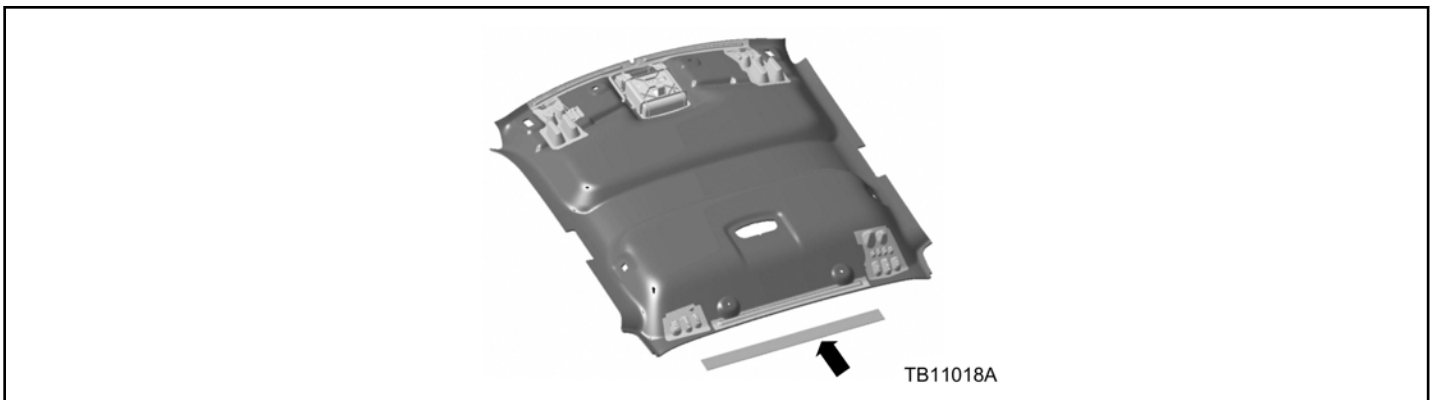

Figure 3 - Article 17-0012
10. Place and hold the installation support board over the front side of the headliner, opposite of the metal reinforcement. (Figure 3)